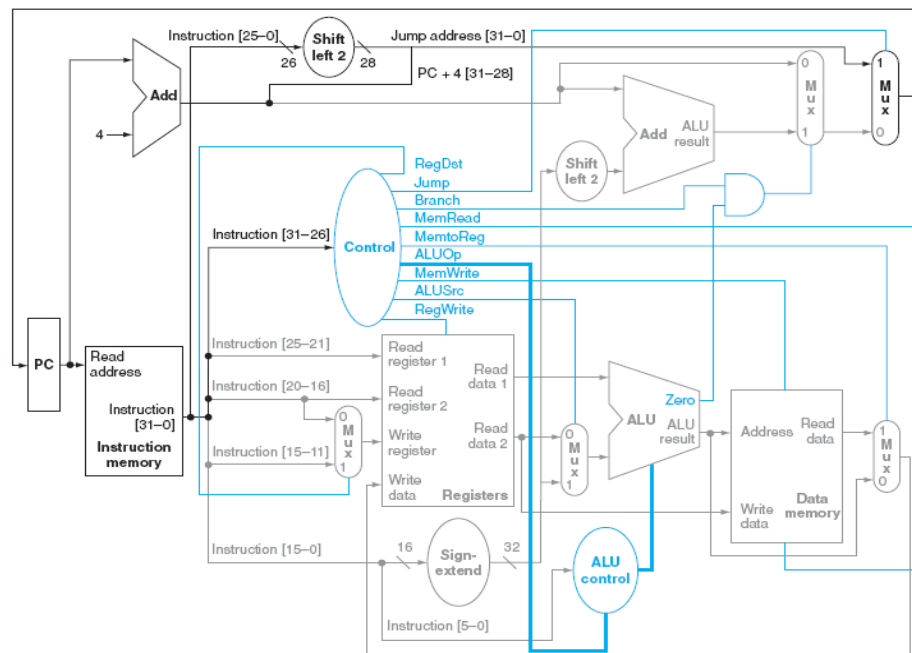
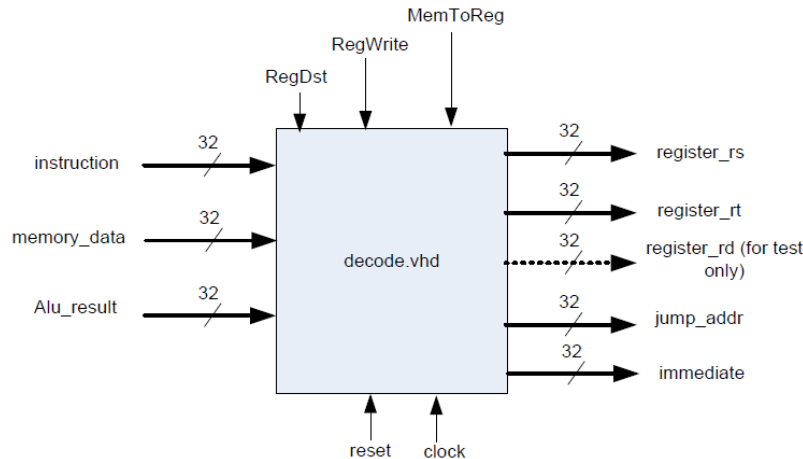
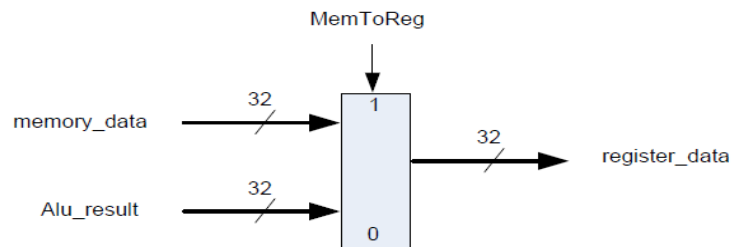

Figure 8-1: Single Cycle MIPS Datapath
Figure 8-2: Decode Module
Figure 8-4: Multiplexer that selects the source of data to be sent to the destination register
The decode module in the overall data path diagram is shown in a blue circle in Figure 8-1. The functional block diagram of the decode module is depicted in Figure 8-2. In this design, the registers will be placed inside the decode module. Note from the diagram that the decode module includes output signals denoted *register\_rs* and *register\_rt*. These are two register values read from the register file pointed by the rs and rt fields of the instruction, which will be sent to ALU. It also includes *jump\_addr* and immediate signals that are directly decoded from the instruction. The job
- The second multiplexer determines whether the data to be stored at the destination register is coming from **Alu\_out** or **memory\_data** (**read\_data** in Figure 8-1). This relationship is shown in Figure 8-4